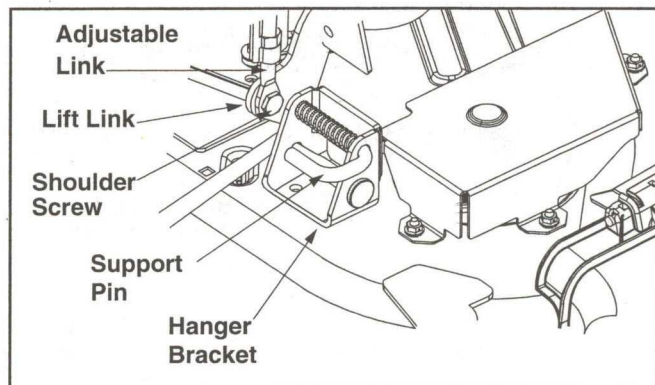

Figure 23
- Pull support pin out to release hanger bracket from lift link and turn support pin until it is against outside of hanger bracket. See Figure 23.